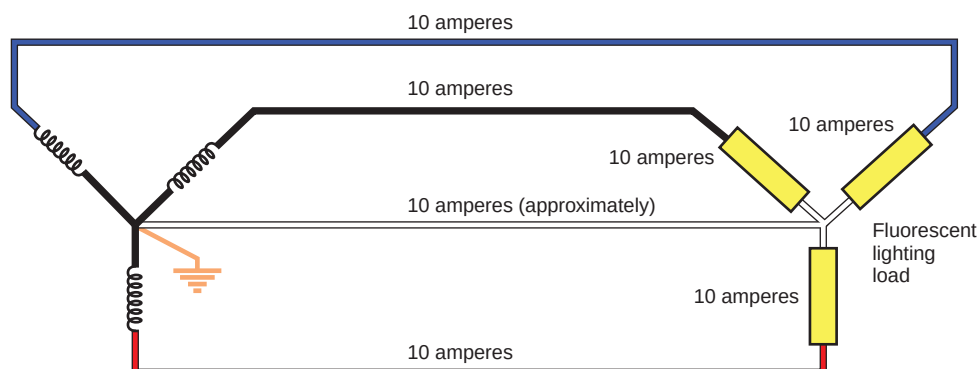

FIGURE 4-8 Four-wire wye system, nonlinear loads. (Delmar/Cengage Learning)
- DO count the neutral conductor of a 4-wire, 3-phase, wye-connected circuit when the major portion of the load is electric discharge lighting (fluorescent, mercury vapor, high-pressure sodium, etc.), data processing, and other loads where the neutral conductor carries third harmonic current. See Figure 4-8 and *NEC 310.15(B)(5)(c)*. In branch circuits and feeders that supply major nonlinear loads, the current in the neutral conductor can be as great as two times that of the current in the ungrounded (hot) conductors. In these situations, design engineers often specify that the neutral conductor be double sized. Special K-rated transformers are recommended for these applications.